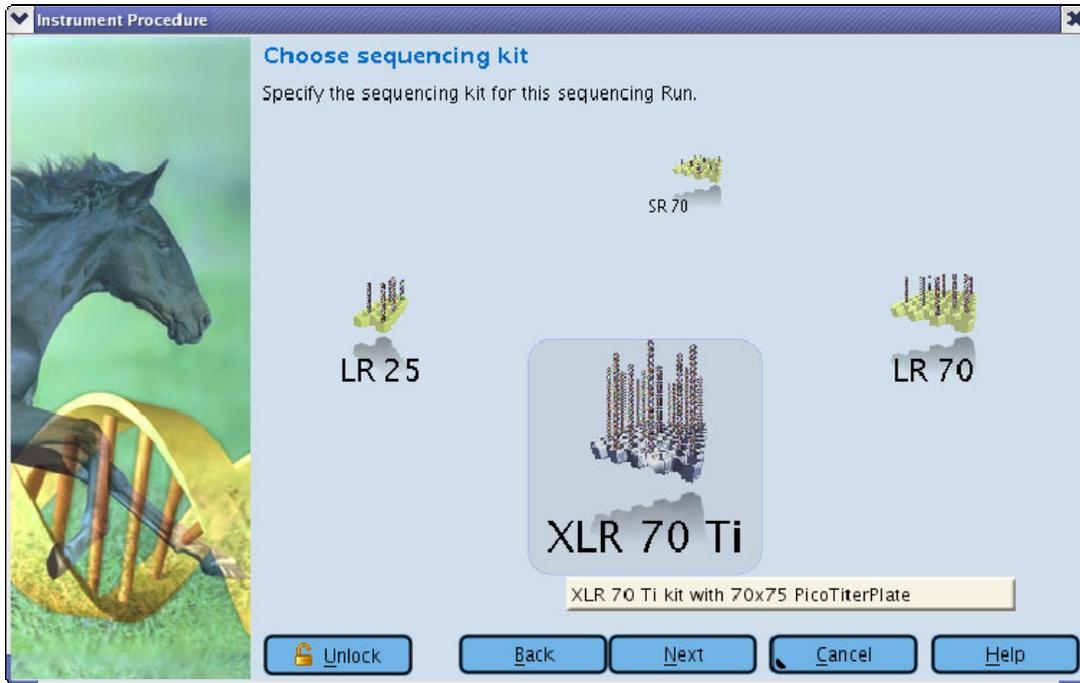

Figure 12: GS Sequencer Run Wizard – ‘Choose sequencing kit’ window
4. **Choose sequencing kit** (Figure 12) – Choose the sequencing kit type that will be used for the sequencing Run.